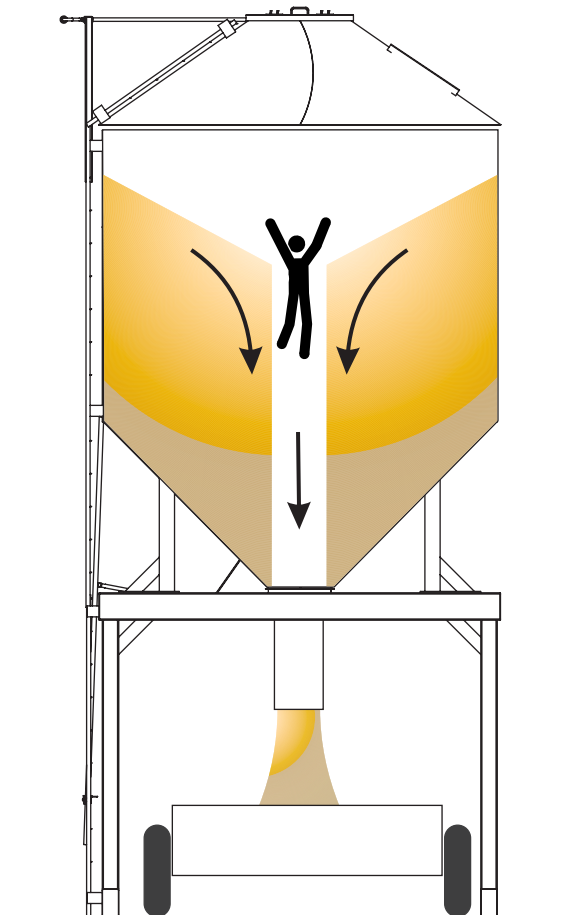

Figure 2-3 – Flowing Grain Entrapment
- Enter a silo with moving grain that can create a suction (Figure 2-3). Moving grain can entrap or engulf the worker within seconds.